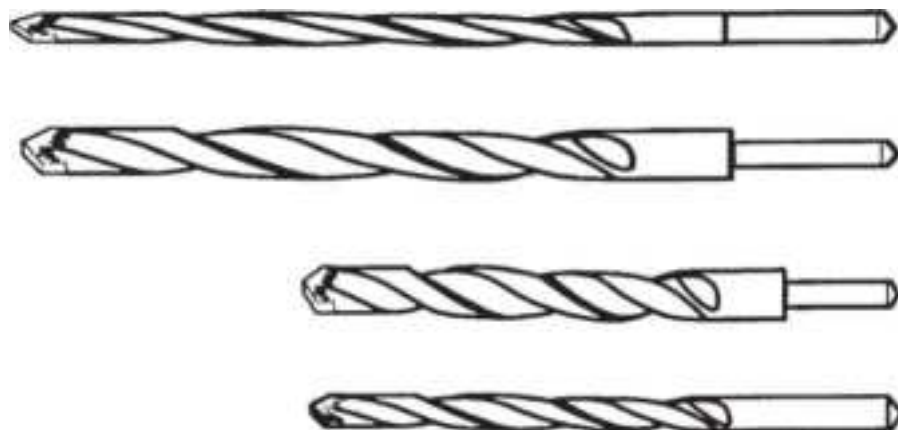

**Figure 2.8** Masonry bits used for drilling holes in brick and concrete. (*Keedex Mfg.* )
- Drill bits, masonry assortment (Fig. 2.8 )